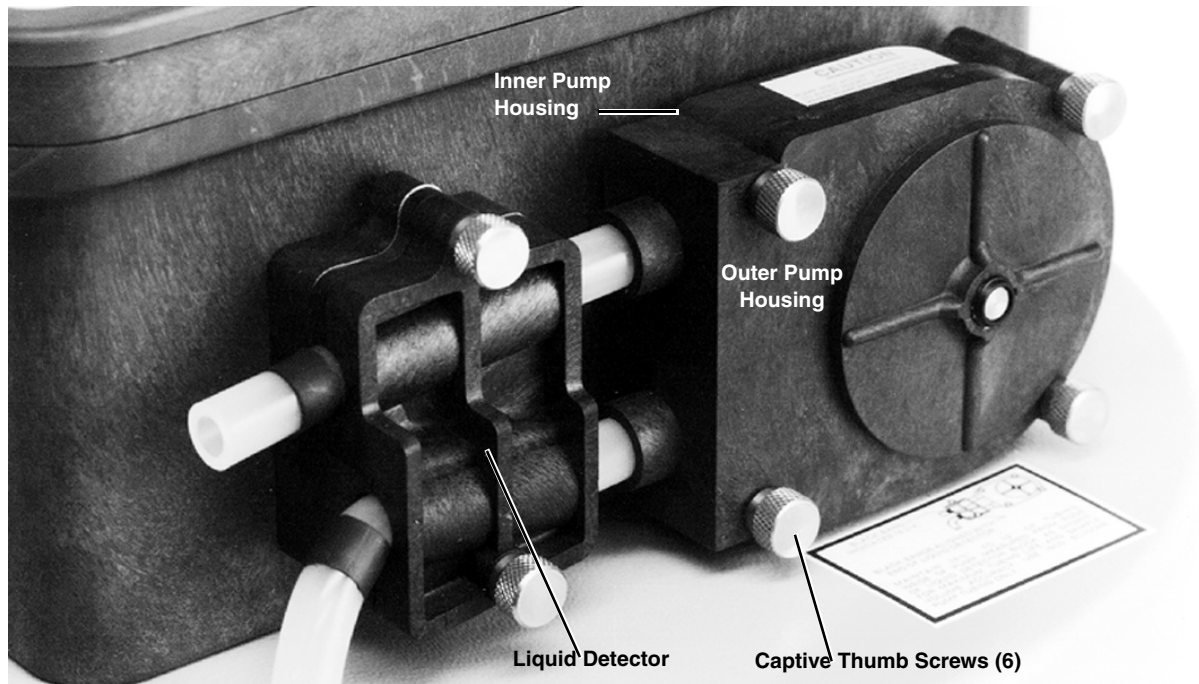
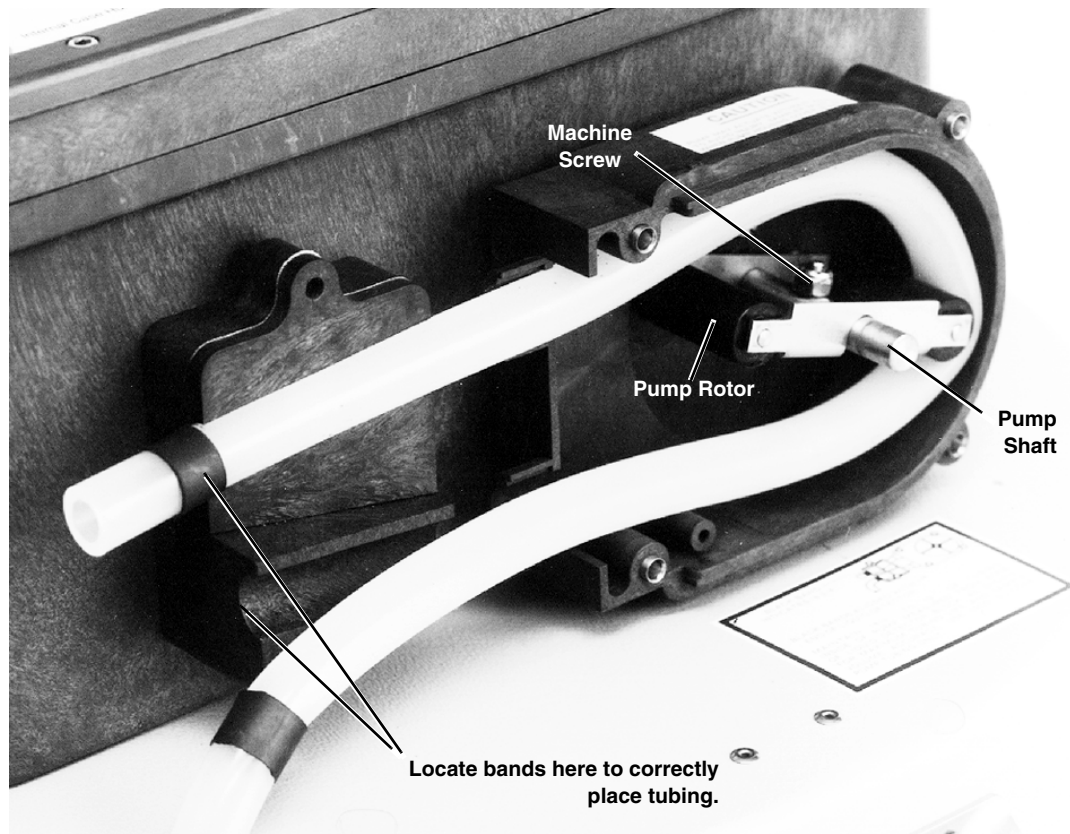

Figure 5-2 Liquid Detector and Pump Housing
Figure 5-3 Interior of Liquid Detector and Pump Housing
6. Detach the outer case of the liquid detector by loosening the two captive thumbscrews as shown in Figure 5-2. Pull the tubing away from the detector.
7. Remove the outer pump lid by loosening the four captive thumbscrews indicated in Figure 5-2. This will expose the pump tubing which is squeezed between the pump rollers and the curved surface of the inner pump lid as shown in Figure 5-3.
Facing the liquid detector, place the inner edge of the end band against the upper left inlet of the liquid detector. Place the inner band at the lower outlet of the liquid detector. Figure 5-3 above shows the correct placement of the tubing at the liquid detector.